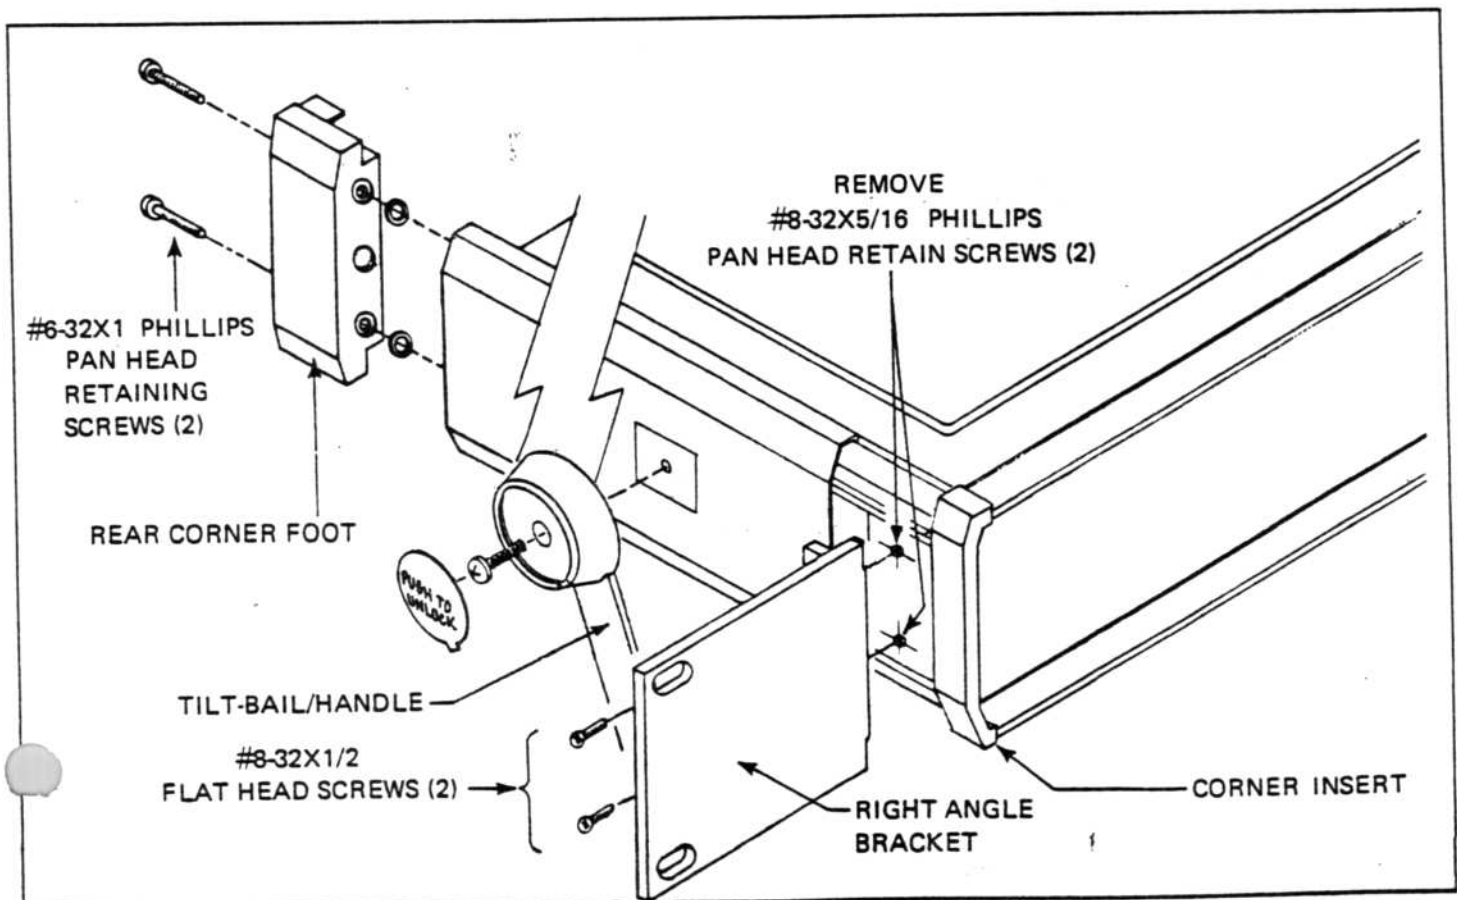

Figure 2.1 - 5001 Rack-Mounting Diagram
2.3.3.1 The Fixed-Mount Installation Package includes a pair of angle brackets and 4 flat-head #8-32 x 1/2 screws. To install the angle brackets, refer to Figure 2.1 and proceed as described in the next five paragraphs.